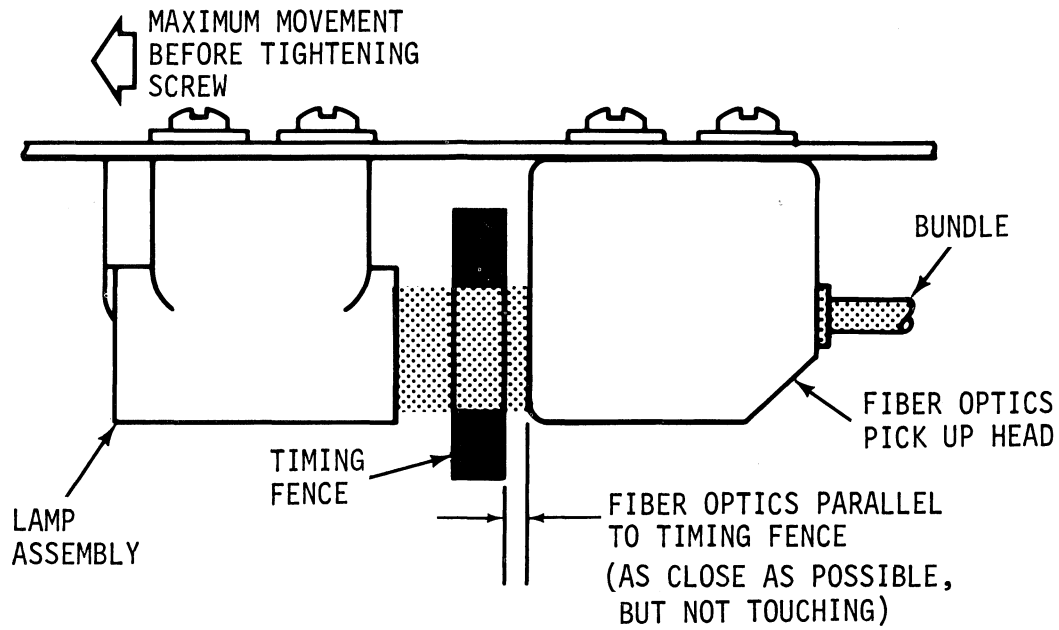
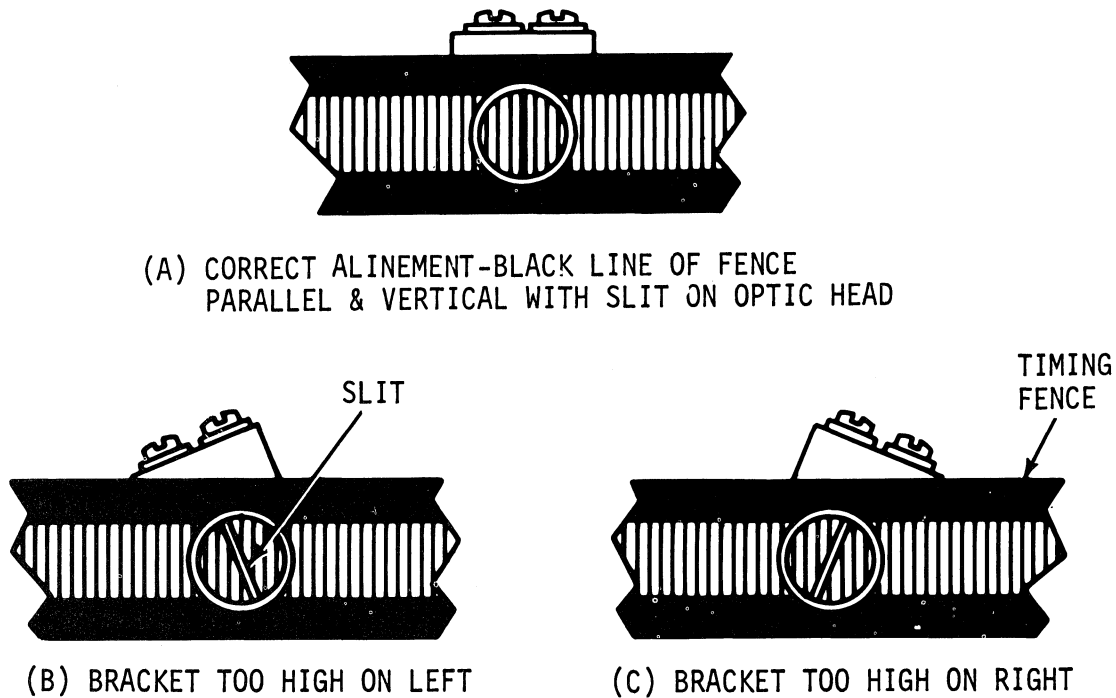

Figure 5-16. FIBRE OPTICS HEAD, ADJUSTMENT FROM OPTIC FENCE
Figure 5-17. FIBRE OPTICS HEAD ALINEMENT AND FLEXIBLE TIMING FENCE
5.2.18 ADJUSTMENT OF FIBRE OPTICS HEAD IN RELATION TO TIMING FENCE (Refer to Figures 5-16, 5-17)
2. Loosen screws and washers (42, 43) on lamp holder housing assembly (40) (without lamp, 44) (GE379) and socket (15), and move housing backward (towards operator) on screw adjusting slots to maximum distance (See Fig. 5-16). Tighten screws and washers.
3. Loosen screws (42) and NO. 2 flatwashers (43) on fibre optics head (39) and move head toward flexible fence, but not touching (See Figure 5-16). Allow lead of optic bundle (part of fibre optic head (39), to hang freely. Do not tighten fibre optic head screws.
The following adjustments must be made to simulate correctly aligned lamp (GE379) so that when adjustments are final, the lamp is inserted and this light source is then directed properly through the timing fence to slit on fibre optic head (Fig. 5-16).
4. Adjust the right side, top edge of fibre optics head so that it is physically parallel with edge of video pc board (Fig. 7-15/1) and as close to fence without touching (See Fig. 5-16).
- a. If face of optics head is not parallel with respect to the vertically suspended timing fence, physically bend the bracket (21) slightly up or down to maintain parallelism. Tighten screws on optic head.
5. From a position in front of flexible timing fence and with fibre optic bundle (39) pointing to a light source, correctly aline illuminated slit on optics head by observing through empty light housing (40) so that light slit on optics head is completely blocked by any black line on the timing fence (See Fig. 5-17(A)).
- (a) If the bracket (21) holding the optics head is too high on left (Figure 5-17(B), tap bracket to aline slit and black line as shown in Figure 5-16.
- (b) If the bracket holding the optics bundle is too high on the right (Fig. 5-17(C), tap bracket to aline slit and black line as shown in Fig. 5-16.
7. Insert lamp (44) (GE379) into socket (15) attached to lamp retainer (44) (part of lamp ass'y), but note that prior to insertion into lamp ass'y be certain lamp filament (inside lamp) is in a vertical plane paralleling slit, with respect to the opposing fibre optics head (39) for maximum blockage of light by black line on fence (Fig. 5-17(A)). Insert lamp retainer (part of lamp ass'y) (40), and tighten screw (30).
8. Install optic bundle lead of fibre optic head (39) into photo cell housing ass'y (14) installed on the top center of video amplifier board (1). Tighten screw (32) on clamp end of photo cell housing.